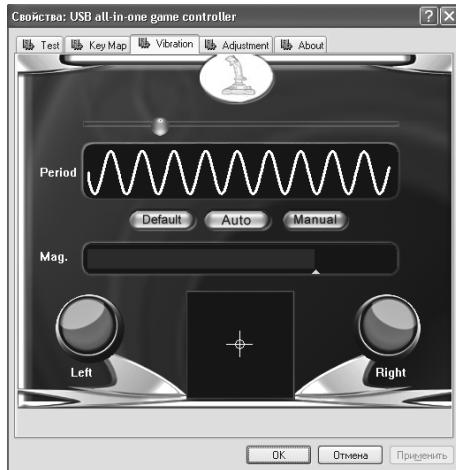

Fig. 7
- Vibration feedback function. Enter Vibration tab (Fig. 7) to test vibration feedback function. Fluctuating and swaying action of the flight joystick corresponds to motor vibration; period (Period) and range (Mag.) of vibration can be adjusted during vibration test. In the center there is a field that shows shifting of joystick handle with vibration. Vibration indicators are on the left and on the right. Shifting to the left and right you activate Left indicator, while shifting up and down you activate Right indicator. Alternatively, you can click Auto for auto-test.